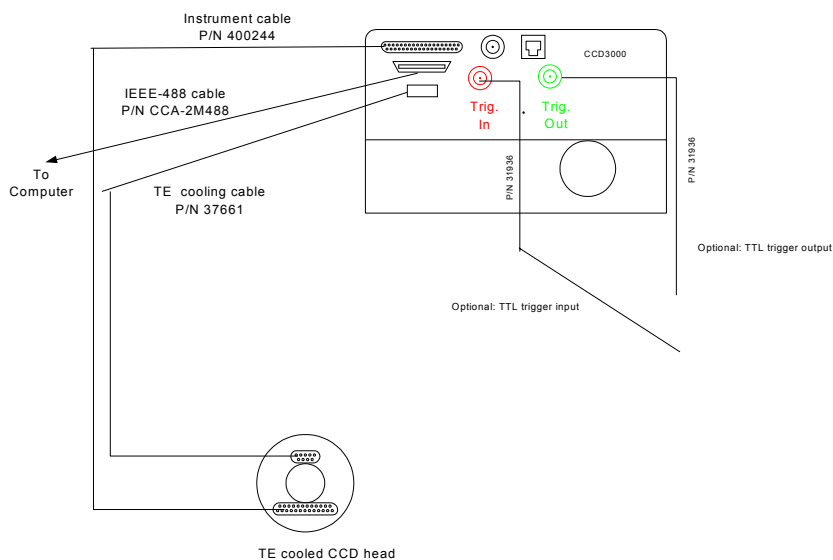

Figure 8. Wiring diagram for Spectrum ONE CCD detector.
2. With the power off, connect the host computer to the CCD controller using IEEE-488 (GPIB) cable. Figure 8 shows a wiring diagram for a TE cooled CCD, with optional trigger connections.